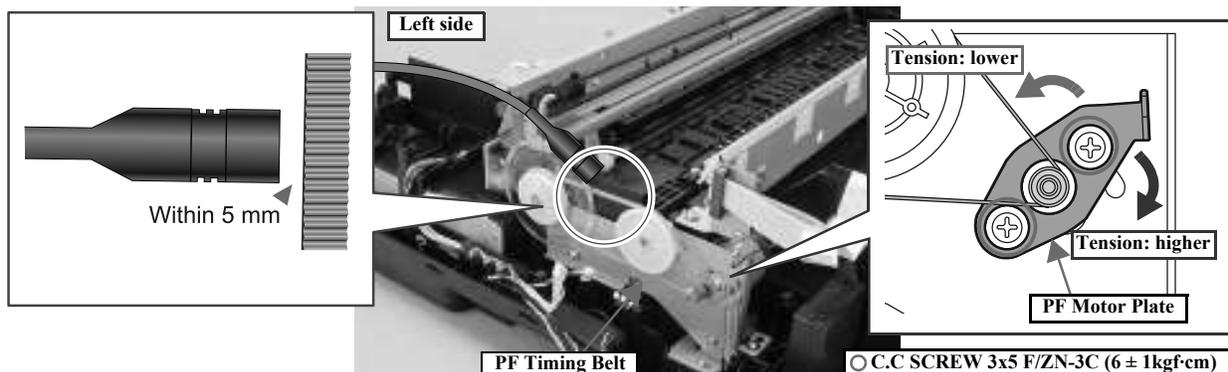

Figure 5-1. PF Timing Belt Tension Check
3. Bring the microphone of the sonic tension gauge close to the upper center of the PF Timing Belt as shown in Figure 5-1.
1. Loosen the screws (x2) of the PF Motor Plate, and adjust the position referring to Figure 5-1.